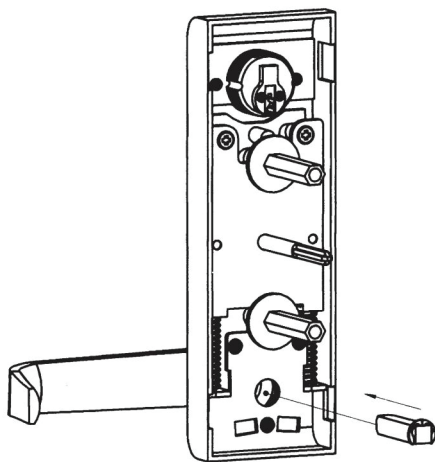

Fig. 2
2. Insert the square spindle into the hub (see Fig. 2).